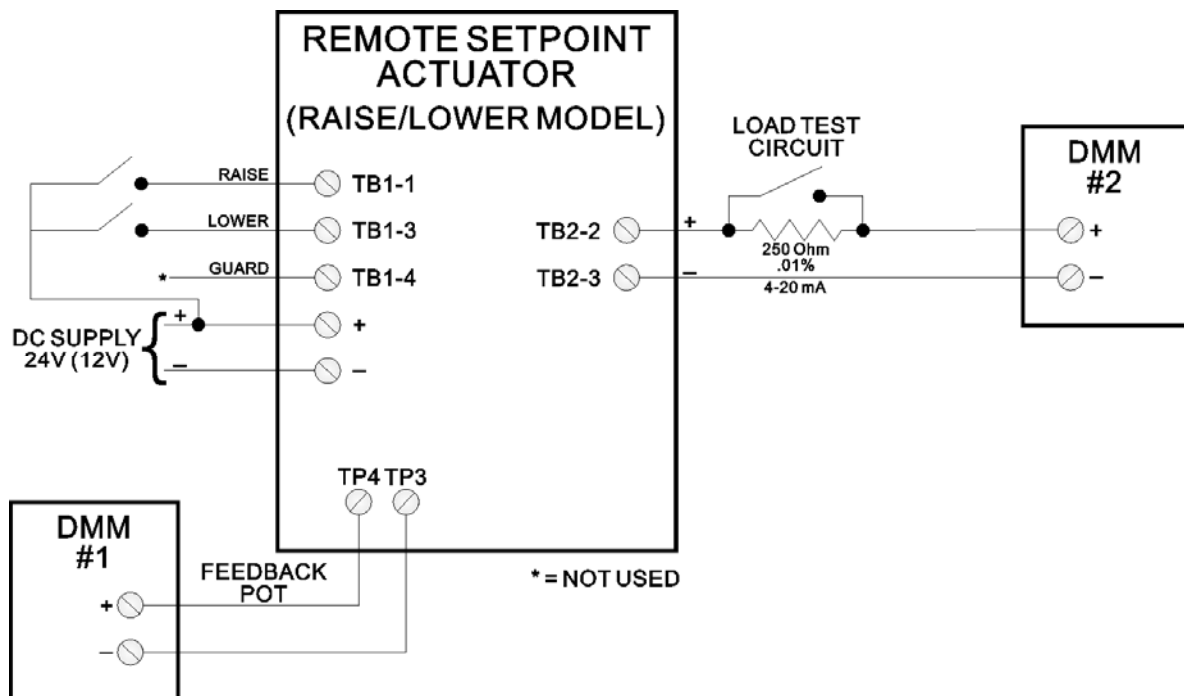

Figure 3C-25 - Raise/Lower Test Setup
3. If reading of step 2 is out of tolerance, slightly loosen two screws on body of feedback pot (Figure 3C-23) and rotate body until DMM #1 reads as specified in step 2. Secure pot screws to lock in setting.
using the current measurement function is connected in series with a 250-ohm resistor load as shown in Figure 3C-25. The pushbutton switch is used to jump the load.